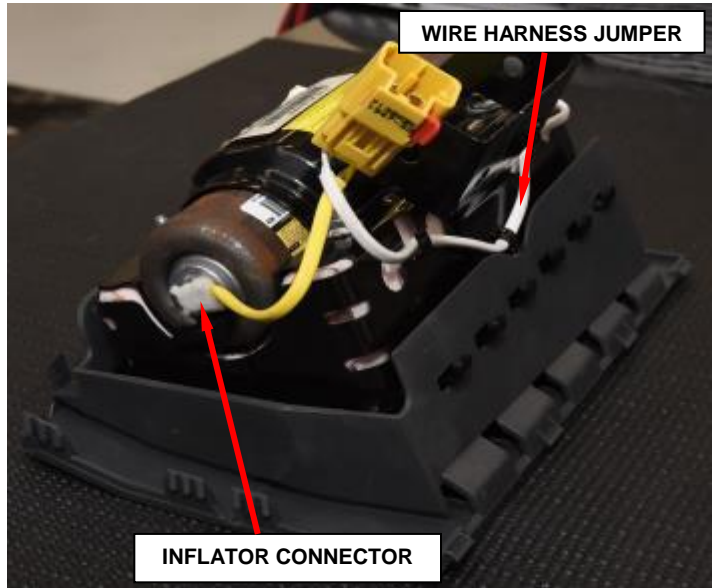

Figure 5 – Inflator Connector
b. Disconnect the single yellow wire inflator connector from the end of the inflator using pliers (Figure 5).